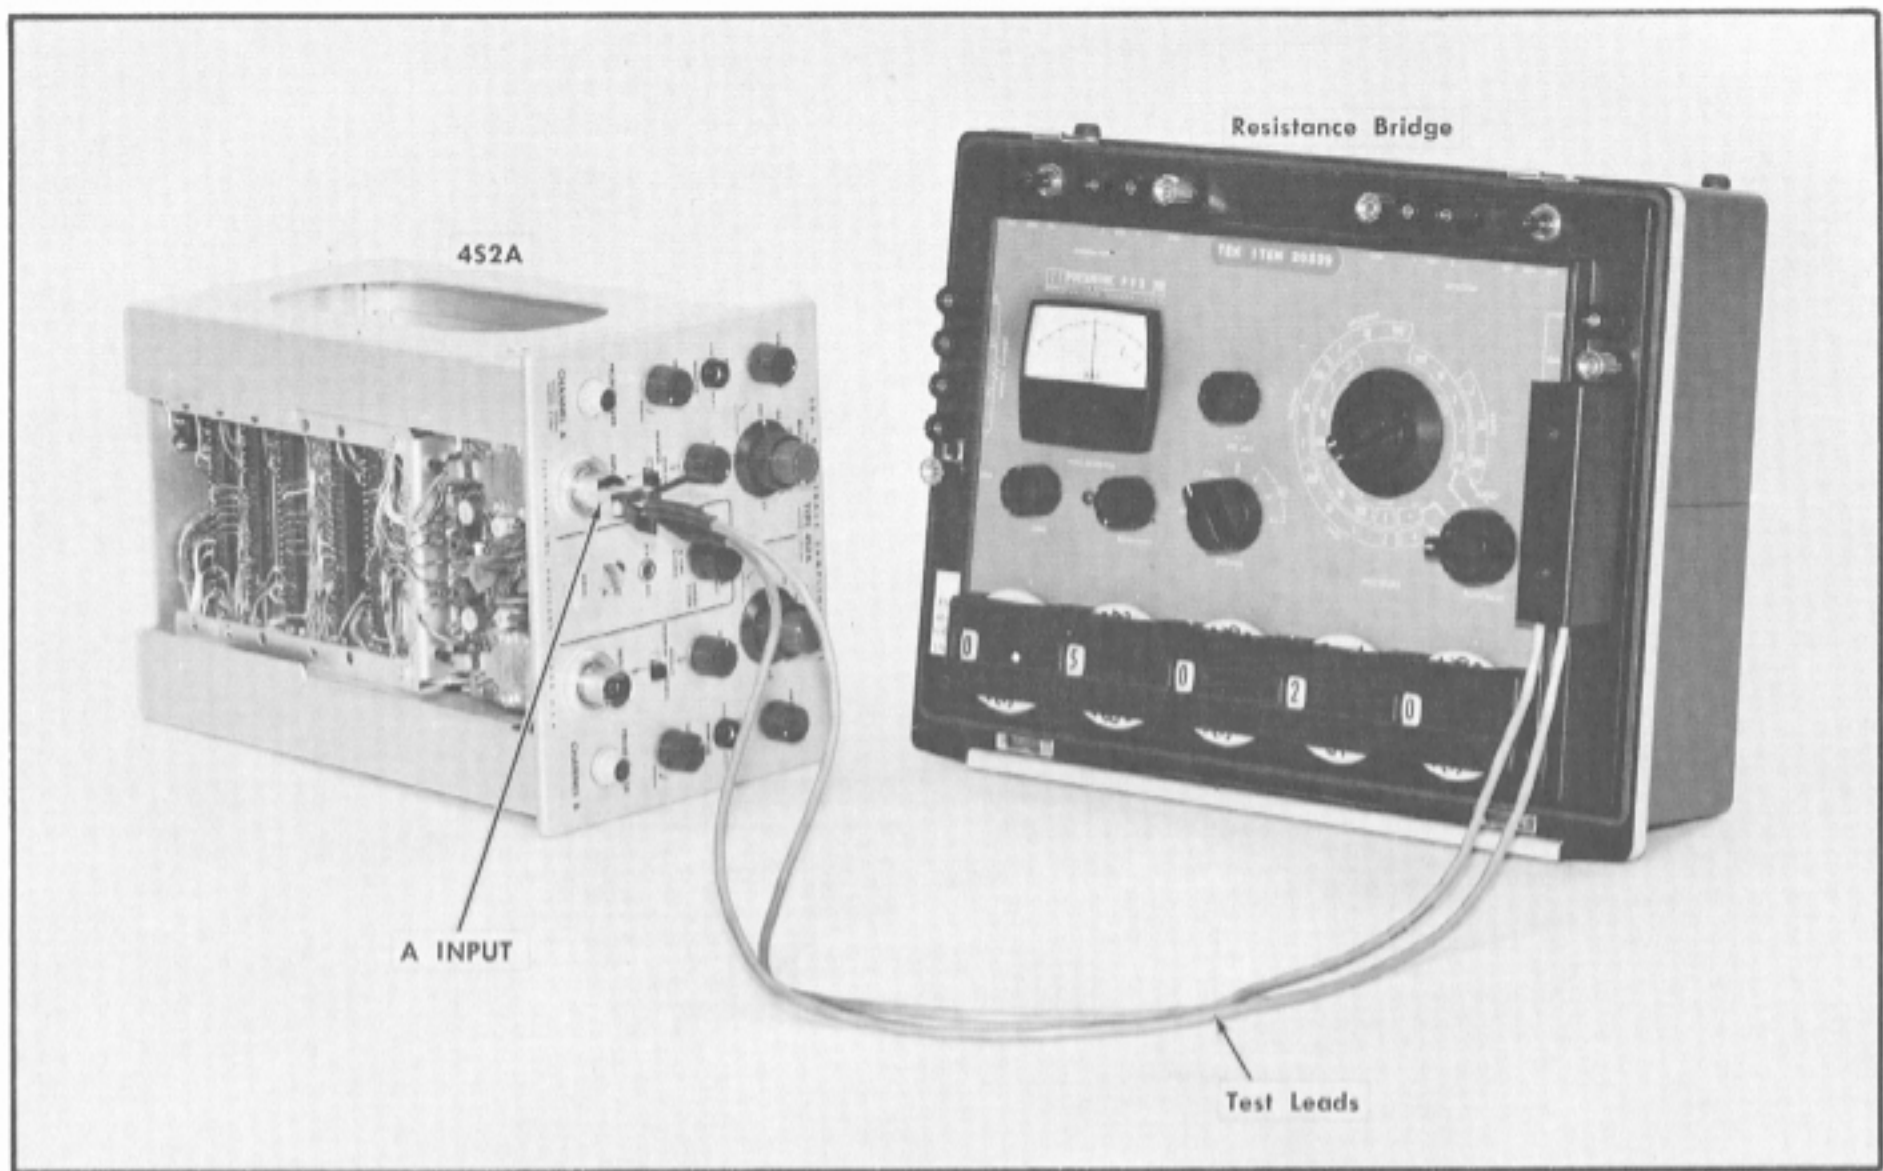

Fig. 6-4. Test equipment setup for step 3 of Preliminary Procedure.
a. Connect the Resistance Bridge test leads to the proper Bridge terminals for resistance measurement, as shown in Fig. 6-4.